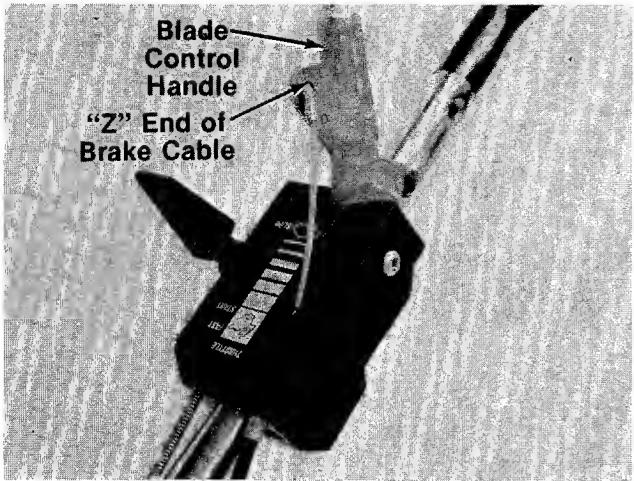

FIGURE 5.
8. Hook the "Z" end of the brake cable into blade control handle. See figure 5.